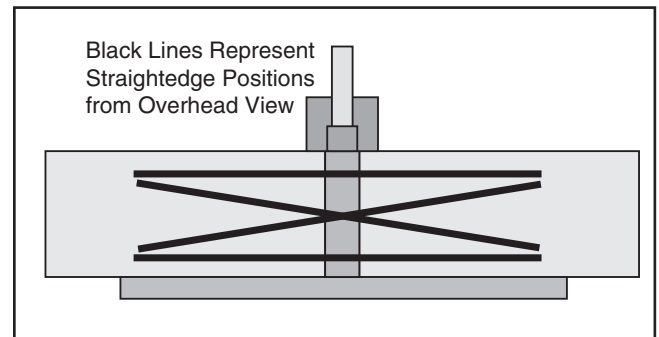

Figure 51. Example of infeed and outfeed table height set evenly.
- Access infeed table leveling adjusters by removing (4) cap screws and flat washers from table openings.
- Place straightedge in one of the positions shown in **Figure 51**, and rotate leveling adjuster(s) under straightedge until straightedge lies flat across both tables.